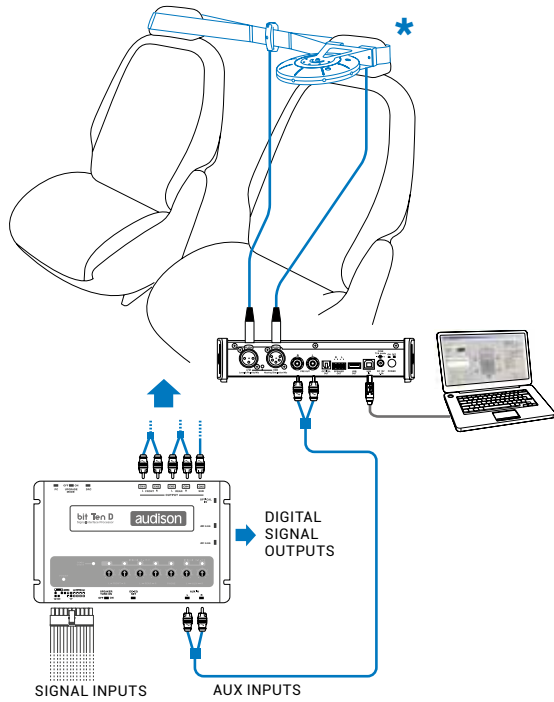

Fig 1.
1. Connect the bit Tune to the Audison bit processor, as shown in fig. 1, 2 or 3 (see points **A**, **B** and **C**). The AUTO EQ+ AUTO TIME ALIGNMENT procedure must be performed in an environment that is not noisy, with the car's engine off, air conditioning off, doors and windows tightly closed and radio frequency devices away from the car's passenger compartment.